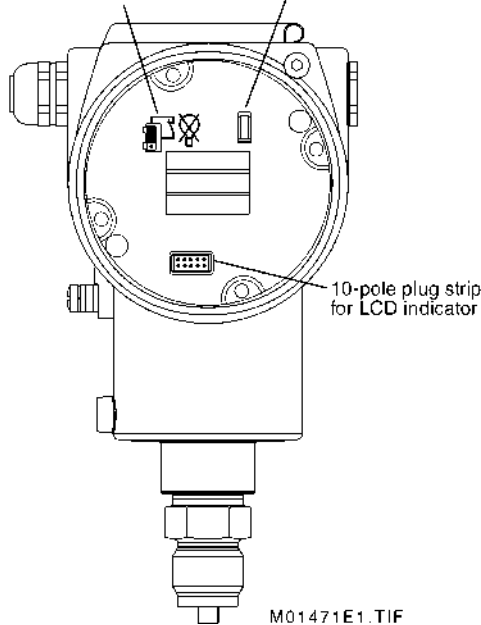

Figure 9. Electronic compartment – LCD indicator mounting
- Unscrew enclosure cover of the electronic compartment (see figure 9) (if necessary, observe section "Secure enclosure cover for EEx d").